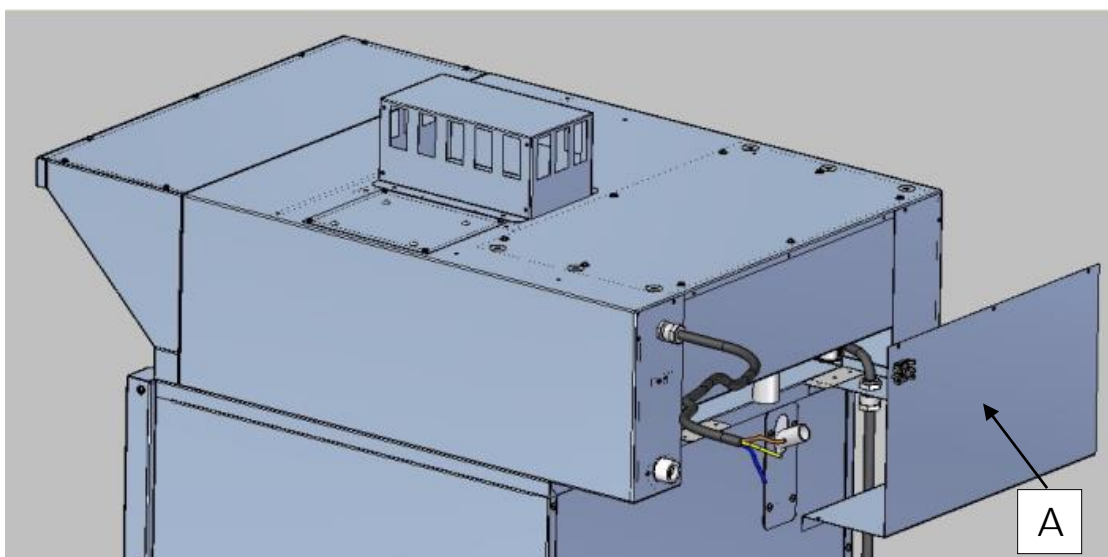

Fig. 7
*Only take out the removable component of the hood back "A", unscrewing the screws fixing it. (Fig. 7)*